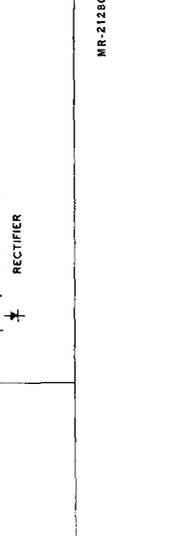

FIG. 5B CONTROL VOLTAGE TRANSFORMER (NOTE 3)
3. CONTROL VOLTAGE 208/220 STANDARD WITH CONTROL CENTER. FOR OTHER VOLTAGES A TRANSFORMER MUST BE USED. SEE FIG. 5B.